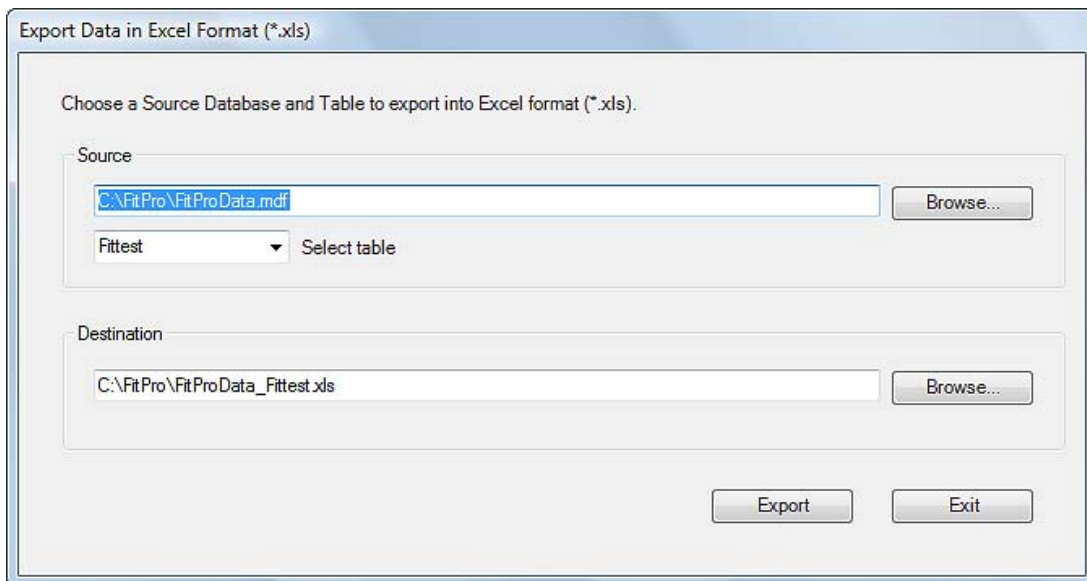

Figure 26. Export Data in Excel Format
1. Select **Database | Export | Excel Format**. The Export Data in Excel® format (*.xls) dialog (Figure 26) appears. By default, the active database is selected as the **Source** database. If you want to export from a different database, click **Browse** to navigate to the desired database file.